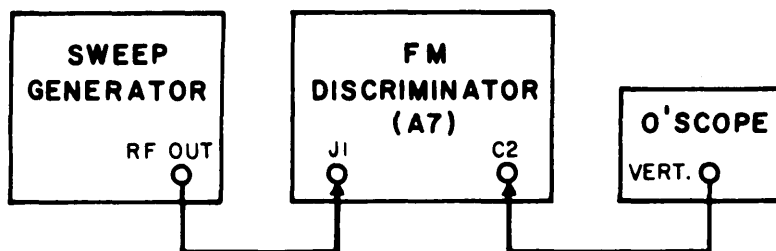

Figure 4-12. Test Setup, FM Discriminator (A7) Alignment
- (1) Construct circuit as shown in Figure 4-12.
- (2) Set the Sweep Generator for a center frequency of 10 MHz, sweep width of 300-400 kHz and a signal level of 20 mV.